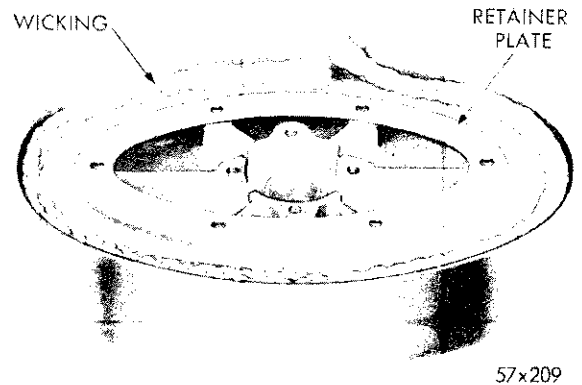

Fig. 62—Installing the Wicking
(3) Coil the cotton wick inside the packing lip and cut to the required length, as shown in Figure 62. Remove the wick and dip in vacuum cylinder oil. Let excess oil drip off then install in packing.